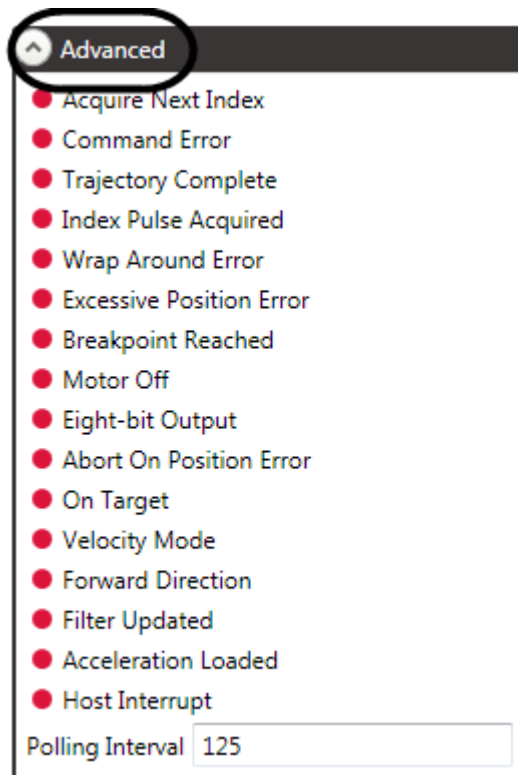

Figure 90
2. Scroll to the **Advanced** section of the **Motor Editing Pane** (Figure 90).